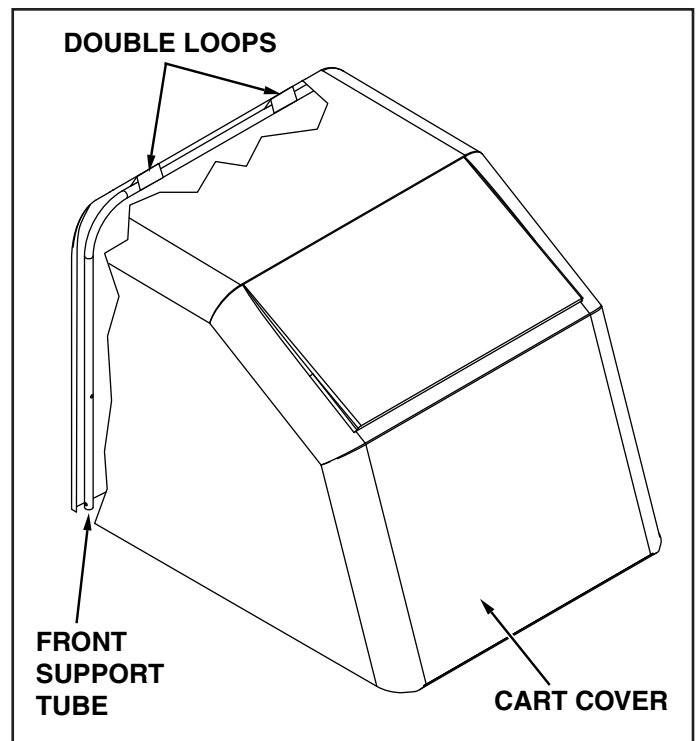

FIGURE 19
1. Slide the front support tube through the double loops located near the front of the cart cover. See figure 19.